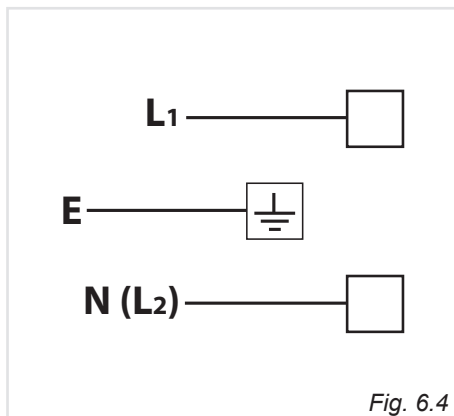

Fig. 6.4
- The new supply cable, of suitable type and section, must be connected to the terminal board following the diagram in fig. 6.4.